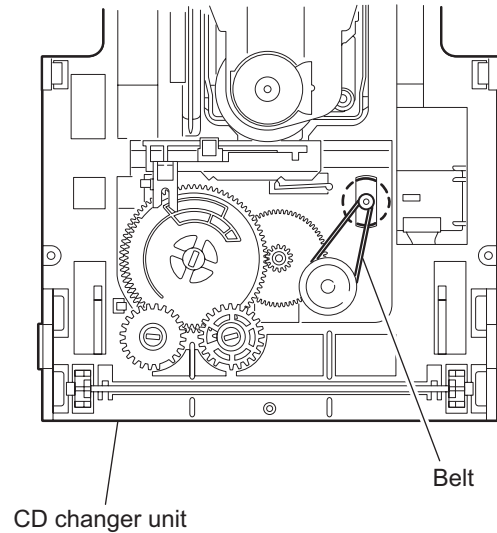

Fig.48
3.3.3 Removing the belt / motor board / switch board (See Fig. 48~50)